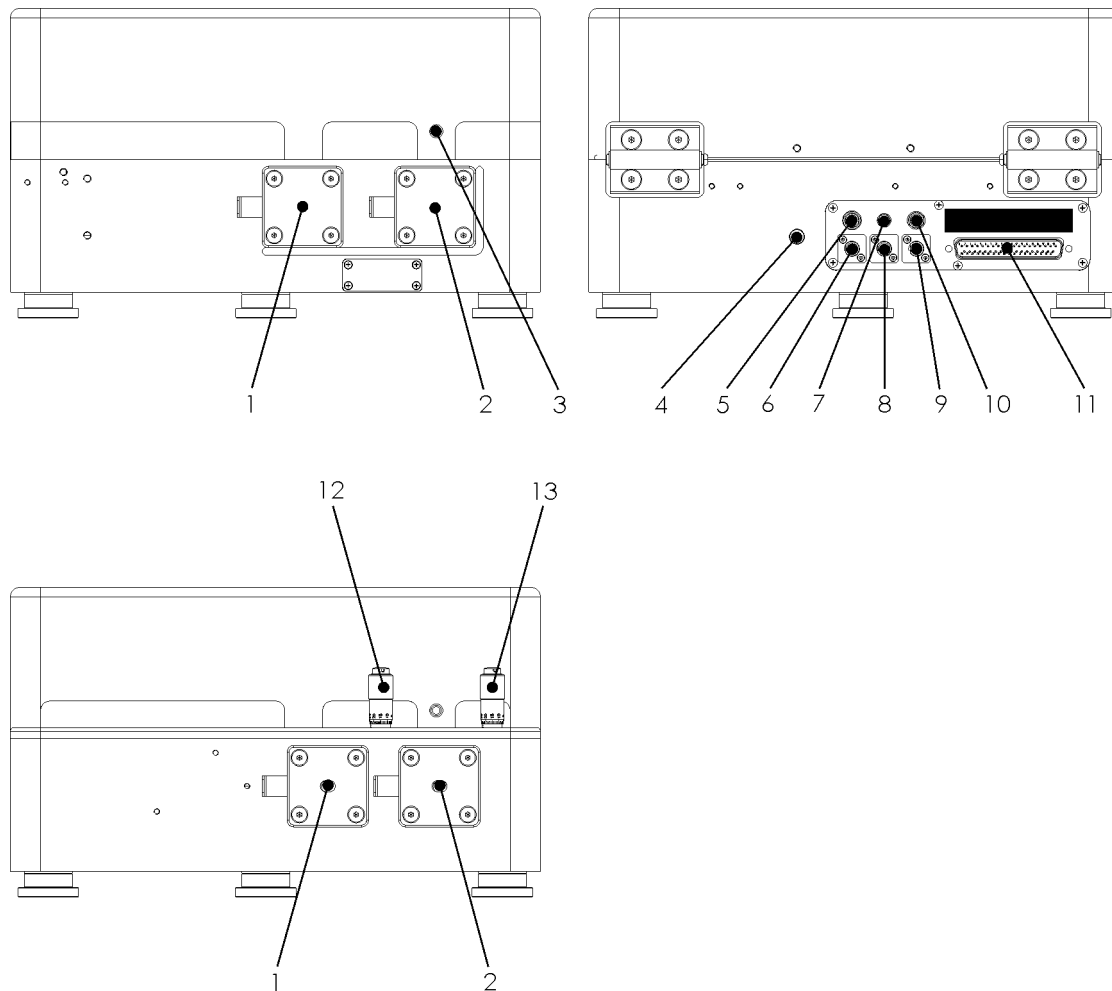

Figure 27 Operator Controls at FemtoFiber® pro Laser Head
- 3 Connect the FC/APC fibers for each arm (i.e. FemtoFiber® pro AMP Laser Head) to the respective FC/APC connector (Figure 27: 6, 8, 9) of the FemtoFiber® pro Main Laser Head.
5. The white Laser Radiation Emission Warning LED (Figure 27: 3) lights up continuously and indicates laser emission.